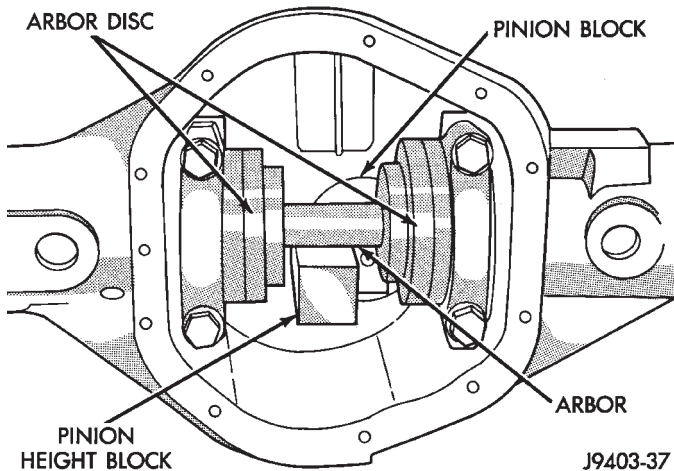

Fig. 58 Gauge Tools In Housing—Typical
(4) Place Arbor Disc 6732 on Arbor D-115-3 in position in axle housing side bearing cradles (Fig. 58). Install differential bearing caps on Arbor Discs and tighten cap bolts to 41 N·m (30 ft. lbs.).